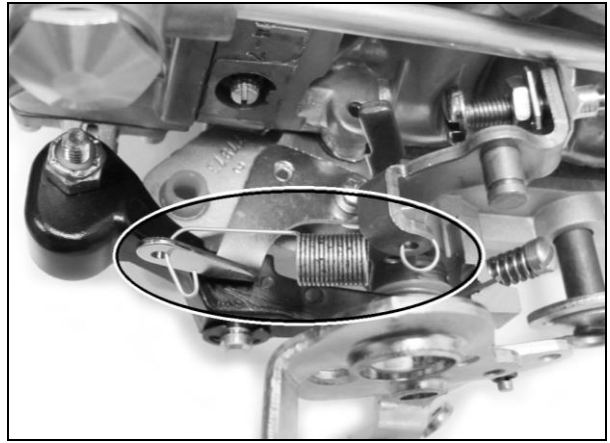

Figure 3
4. Install the transmission kickdown spring between the kickdown lever and the spring perch. See Figure 3.